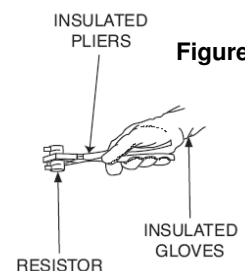

Figure 1a
6. Use electrically insulate gloves and insulated pliers. **See Figure 1a**. Hold the body of the resistor and connect the resistor leads across the resistor R92. Hold the resistor in place for 10 seconds. **DO NOT TOUCH CAPACITOR TERMINALS WITH YOUR BARE HANDS.**